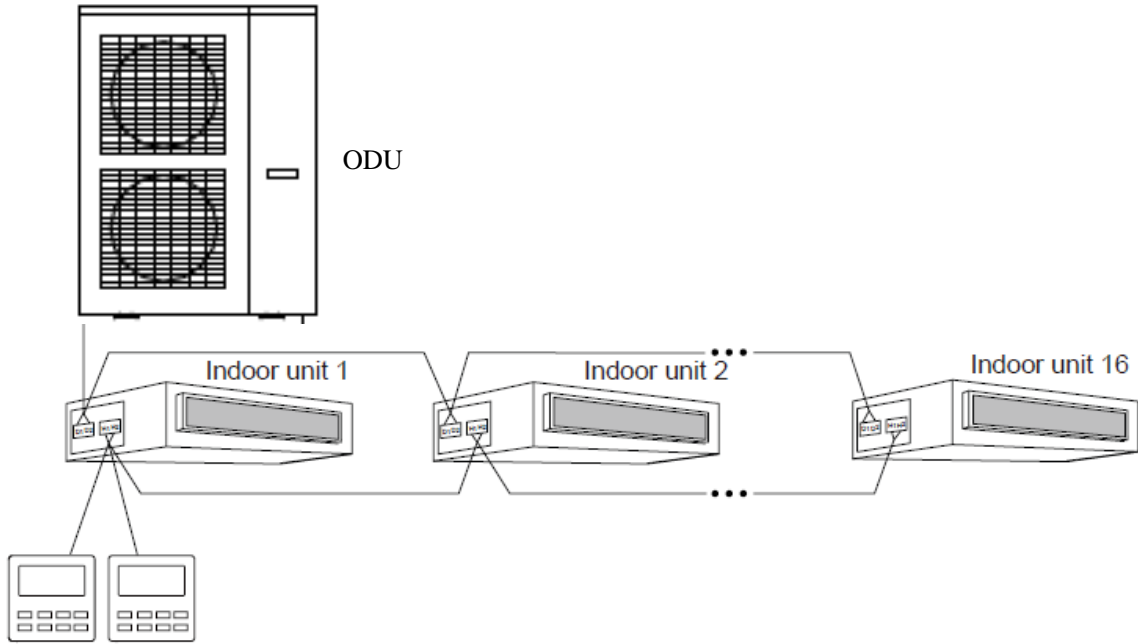

Fig.2 Two wired controllers control multiple indoor units simultaneously
(2) When two wired controllers control one indoor unit, the addresses of those two wired controllers should be different. Please refer to parameter setting.
(3) When two wired controllers control multiple indoor units, wired controller can be connected to any one indoor unit, while the connected indoor unit should be the same series indoor unit. The addresses of those two wired controllers should be different. Please refer to parameter setting. The total quantity of indoor unit controlled by wired controller can't be more than 16 sets and all connected indoor units must be within the same indoor unit network.
(4) When one (or two) wired controller(s) control(s) multiple indoor units at the same time, the controlled indoor unit's setting should be the same.
(5) Wiring of wired controller and indoor unit network must be according to one of the four wiring methods. As for the connection method shown in fig 2 and 4, there should be only one master wired controller (address is 01) and one slave wired controller (address 02). The quantity of wired controller can't exceed two.